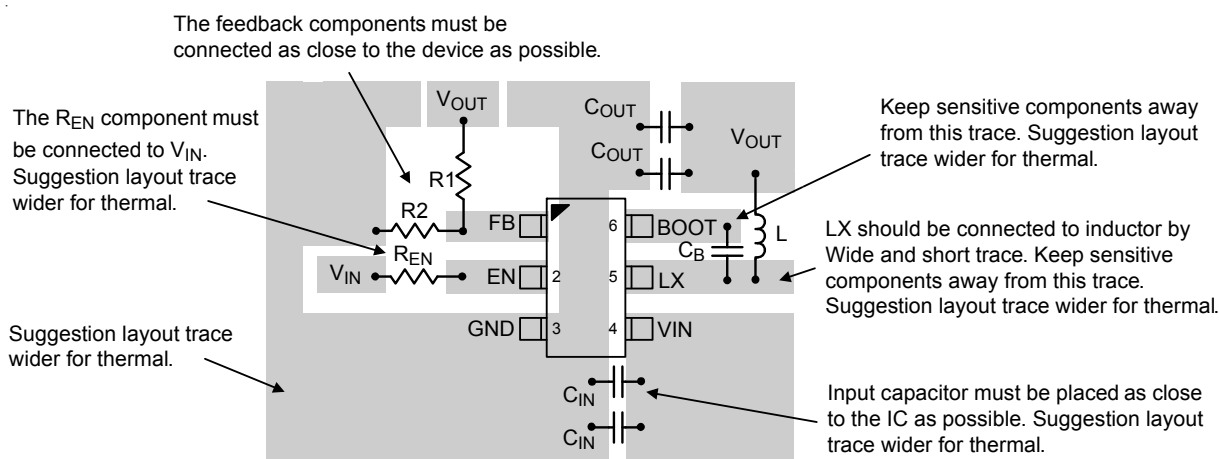

Figure 8. PCB Layout Guide for TSOT-23-6 package
- ▶ An example of RT6254A/B PCB layout guide is shown in Figure 8 and Figure 9 for references.